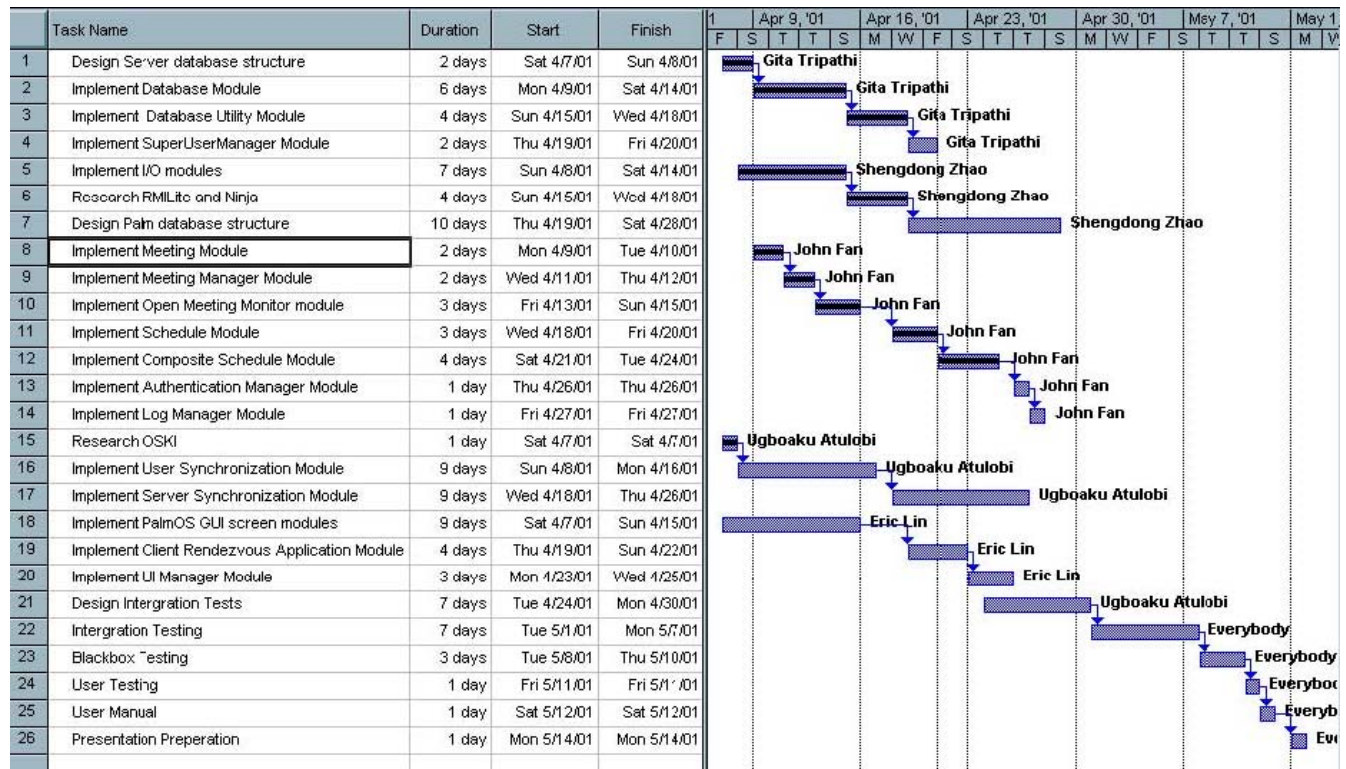

Figure 11.3: An example of a Gantt chart.
**Step 4.** The first path has a duration of 11, which is longer than the other paths, so it’s the critical path. The schedule can also be displayed using a Gantt chart (Figure 11.3).